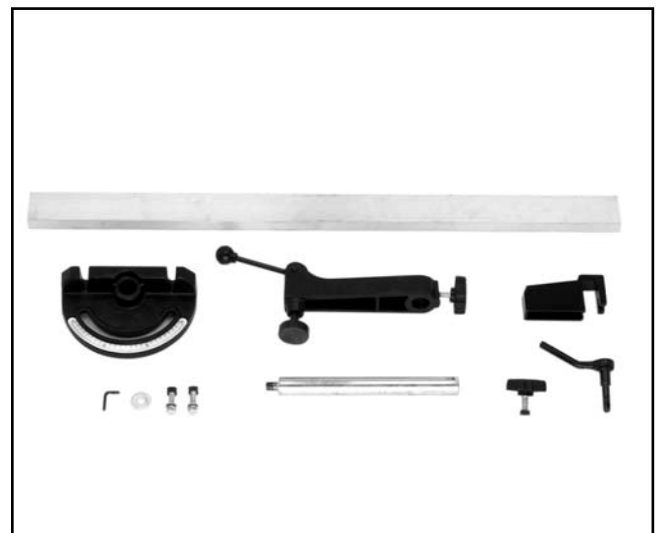

Figure 3. Miter Gauge Kit.
- Miter Gauge Kit (**Figure 3**)